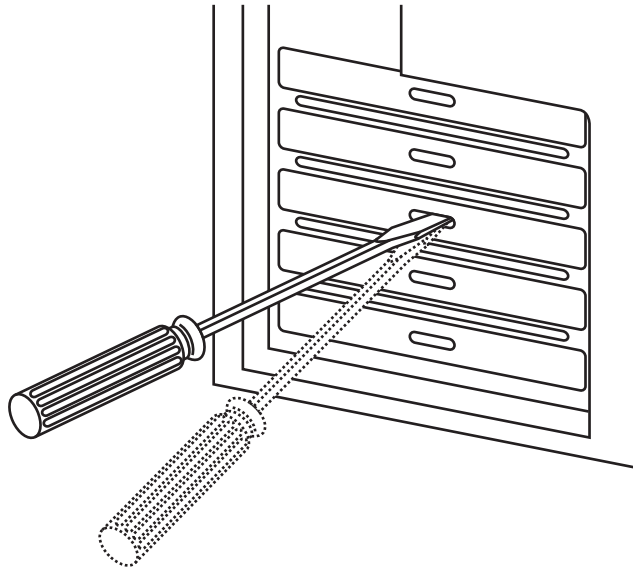

Figure 3-2. Removing the faceplate from the PCI slot.
3. Remove the faceplate from the PCI slot and keep it in a safe place. You may need it for future use. (Also be sure to keep the screws to attach the NIC.) See Figure 3-2.